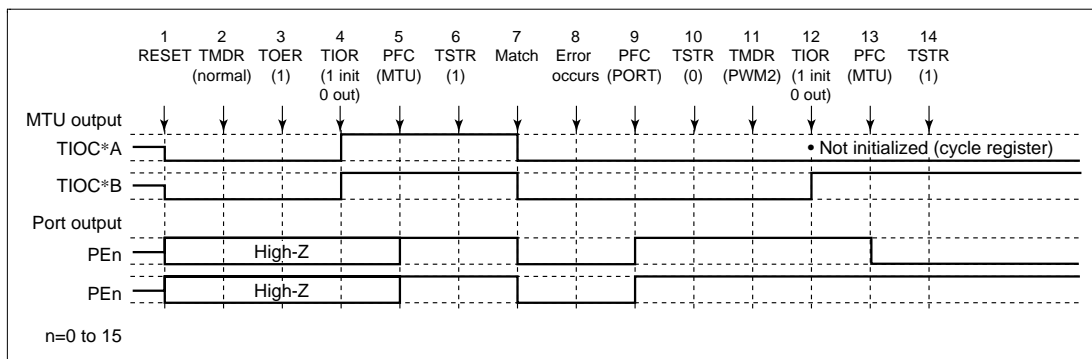

Figure 12.98 Error Occurrence in Normal Mode, Recovery in PWM Mode 2
(3) Operation when Error Occurs during Normal Mode Operation, and Operation is Restarted in PWM Mode 2: Figure 12.98 shows an explanatory diagram of the case where an error occurs in normal mode and operation is restarted in PWM mode 2 after re-setting.